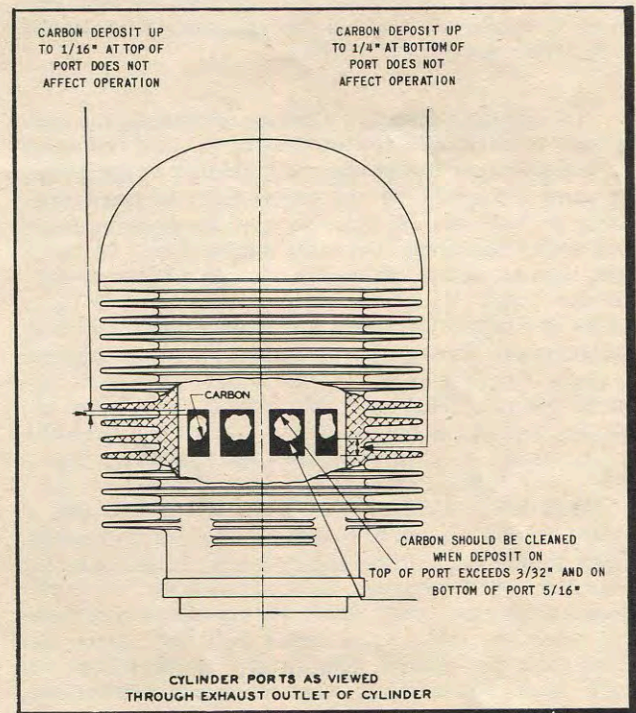

Figure 7 - Exhaust Ports
(4) Carbon formation on the bottom edge of the ports does not materially affect the power of the engine until such deposits project up over 1/4 inch. (See figure 7.) If ports are carbonized over 3/32 inch below the top edge, remove the cylinder for cleaning, as follows: Remove carburetor air cleaner assembly by taking out air cleaner adapter holding screw. Disconnect shielding assembly at spark plug, remove plug with wrench No. S-499 (figure 9), also remove cylinder shield. Take out four cylinder screws with wrench No. S-500. (See figure 9.) Cylinder can now be taken off.
(5) It is important that all deposits be scraped off the cylinder, piston head and exhaust ports. In cleaning exhaust ports use care not to break or burr edges as these are finely beveled.
(6) The muffler assembly does not readily become plugged up and will not ordinarily require replacement when the cylinder ports are cleaned. Checking mufflers for carbonization can best be done by installing a new assembly. For dismantling instructions see section VIII, 1.b. If power is increased with new assembly, replace both mufflers.